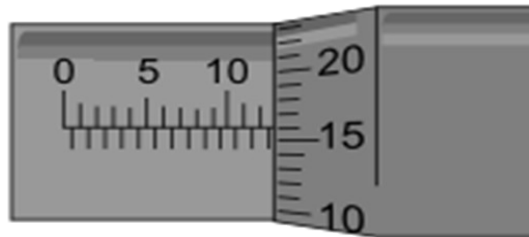

Fig. 4. Reading a micrometer.
- Read the measured value (see Fig. 4 for an example):